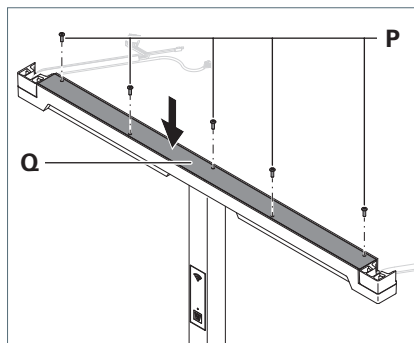

Fig. 11: Crossbar- fitting the cover.
1. Place the cover **Q** on the crossbar, see Fig. 11.